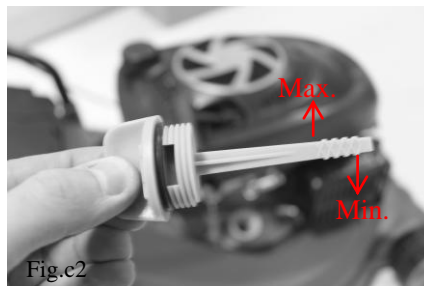

Fig.c2
- 3) Check the oil level. The oil level must between the Min and Max marks on the dipstick. If near the lower level, fill to upper level with the recommended oil. Do not overfill. Wipe away any spilt oil (Fig.c2).